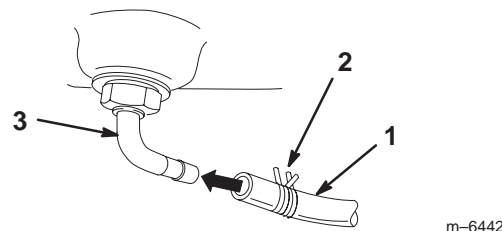

Figure 12
4. Slide the hose clamp onto the fuel line (Fig. 12).
5. Push the fuel line onto the fuel tank connection and secure it with a hose clamp (Fig. 12).